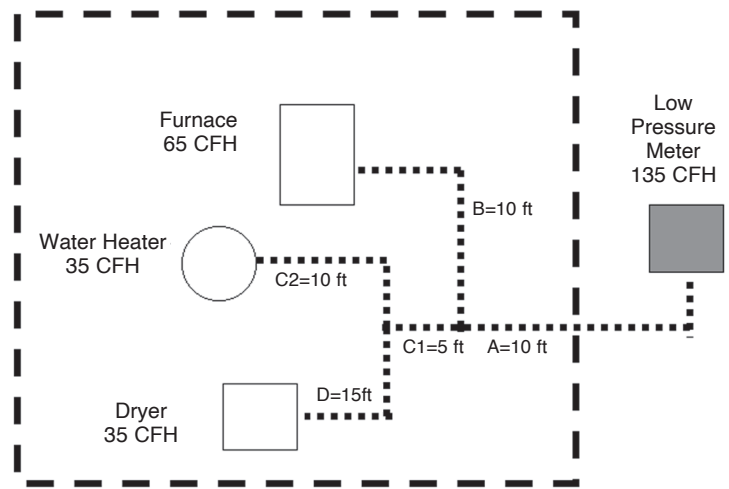

Figure: 3-7
- The system shown in **Figure 3-7** is similar to the one in **Figure 3-1**, which is a single-family installation with an additional appliance, a dryer. The supply pressure is 6 inches of water column, and the allowable pressure drop is 0.5 inches.